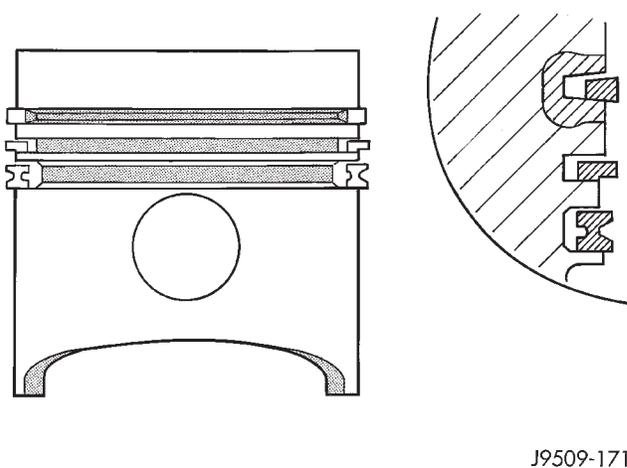

Fig. 79 Piston Ring Identification
(2) Top compression ring is tapered and chromium plated. The second ring is of the scraper type and must be installed with scraping edge facing bottom of the piston. The third is an oil control ring (Fig. 79).